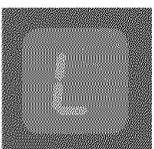

Fig. 16
KEEP WARM - Use the WARM (or LOW) key pad to activate the Warm setting for any of the Cooking Zones. The ON/OFF key pad for the desired Cooking Zone must be activated first, then touch the WARM key pad located in the Cooktop Main Control area once to set. **L** (LOW) should appear in the corresponding Cooking Zone LED (See Fig. 16 & page 10 for complete information).
2. Touch the **WARM** key pad located in the main control area. The Cooking Zone will display **L** (LOW) indicating that the Cooking Zone is properly set to Keep Warm. If no other key pads are pressed for a period of 5 seconds the control will activate the desired Cooking Zone at the Keep Warm setting (See Fig. 16).